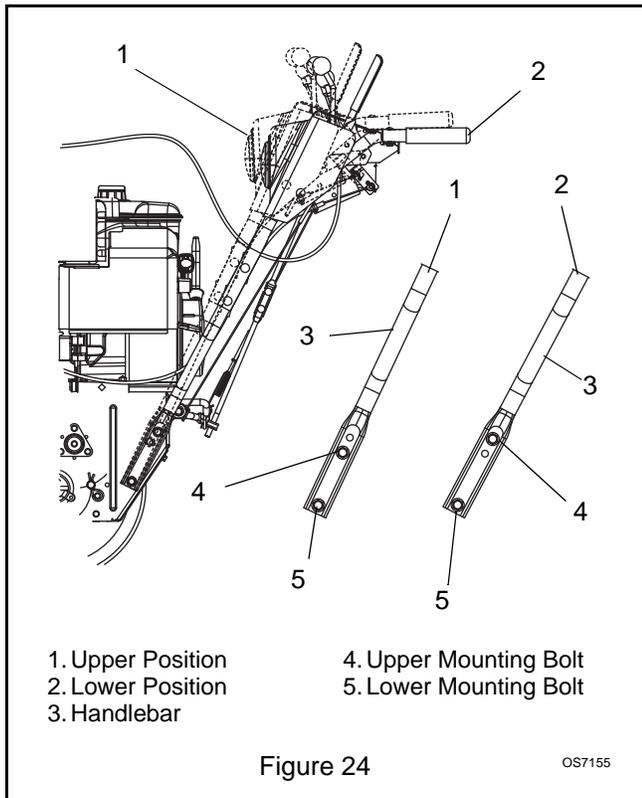

Figure 24
5. Secure handlebar to frame with hardware removed in step 4 using the different hardware locations shown in Figure 24.